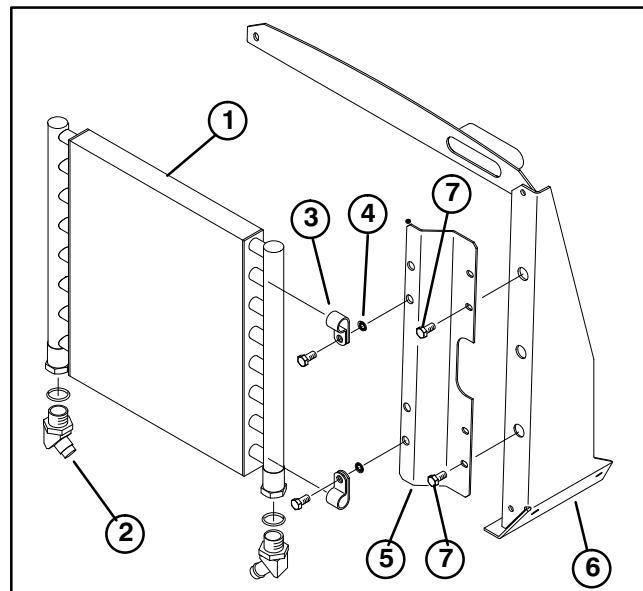

Figure 8
6. Thread a 45° barb fitting into bottom of each tube of new oil cooler (Fig. 8). Tighten each fitting until nut contacts cooler, then, back out until fitting is positioned inward and approximately 30° rearward. Tighten fitting nuts.
7. Insert (4) R-clamps (Fig. 8) onto oil cooler cross tubes positioning clamps as follows:
8. Insert a 3/8-16 x 3/4" lg. capscrew through each R-clamp and secure with a retaining ring. Position capscrews as shown in figure 8.
9. Loosely secure new cooler mounting brackets to R-clamp capscrews as shown in figure 8.
10. Remove existing capscrews securing radiator to support braces. Only remove capscrews shown in figure 8. Do not loosen or remove middle capscrew.
16. Using capscrews previously removed and hole locations shown in figure 8, mount new oil cooler to support braces. Tighten all oil cooler mounting fasteners.